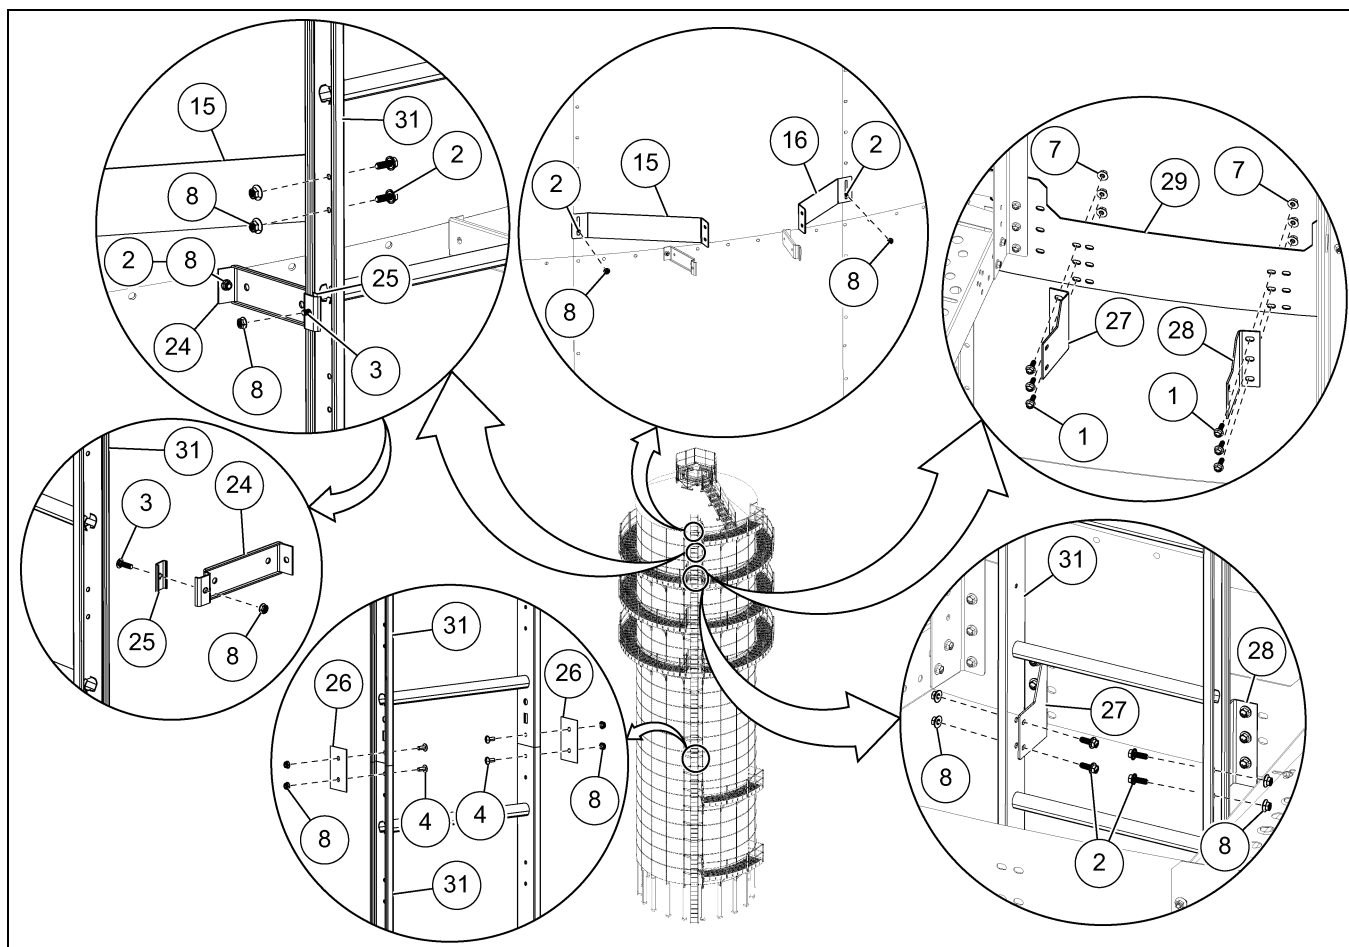

Figure 7G Installing the Ladder to the Dryer
3. Install the ladder section (31) to the ladder brace brackets (15 and 16) using 5/16" x 1" flange bolts (2) and 5/16" flange nuts (8).
4. Slide the ladder wedge (25) along the ladder rail (31) and install it to the ladder stand-off bracket (24) using 5/16" x 1" carriage bolts (3) and 5/16" flange nuts (8).
5. At required places, connect the ladder sections (31) with two splices (26) using 5/16" x 1" flange bolt (4) and 5/16" flange nut (8). **NOTE:** Install bolts (4) with bolt head on the inside of the ladder (31).
6. At catwalks, install the left and right ladder toe board brackets (27 and 28) to the inner toeboard (29) using 3/8" x 1" flange bolts (1) and 3/8" flange nuts (7). (See Figure 7G.)